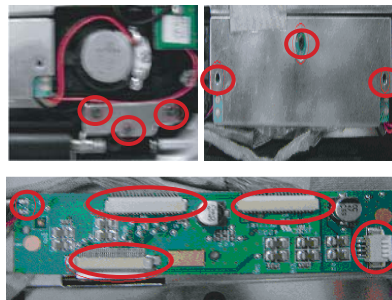

Fig.7
6. Disconnect speakers and IF board Remove IF board as Fig.7.